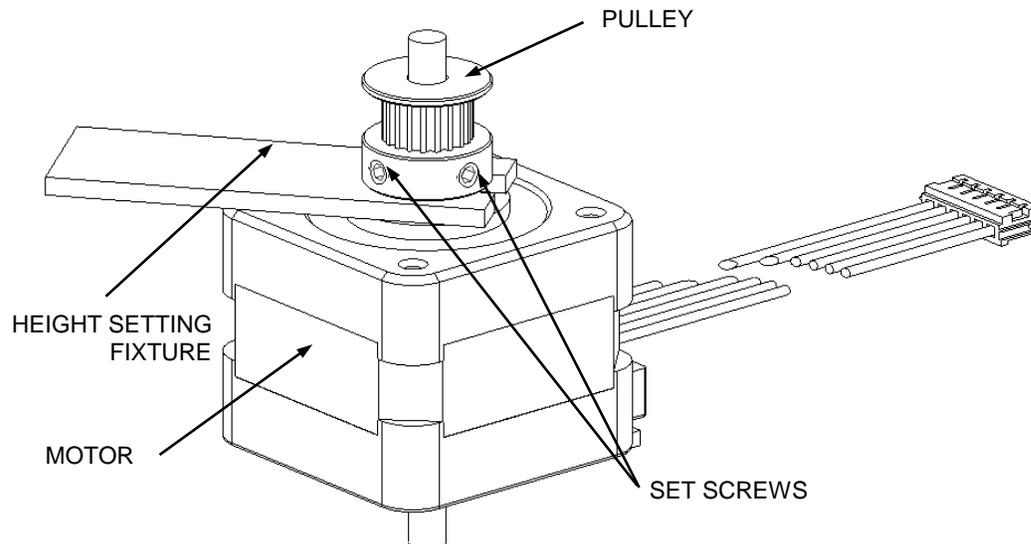

Figure 12-46: Removing the Pulley
5. Remove the Pulley from the Motor as shown in Figure 12-46. When reassembling the system, secure in place using two M4X6 Skt Set Screws and Loctite 222, Use the Height Setting Fixture (DS2FIX006) to set the pulley at the correct height before tightening screws (remove and discard any Set Screws that come with the Pulley).